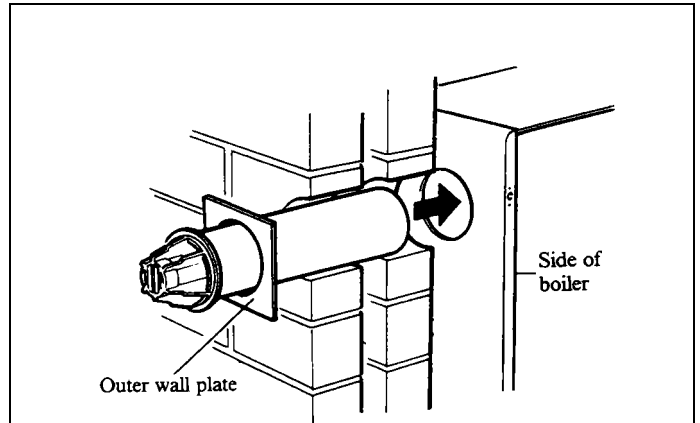

Fig. 21
Refer to Figs. 21 and 22.
1. Fit the outer wall plate, supplied with the flue/terminal assembly, over the flue/terminal assembly as shown in Fig. 21.